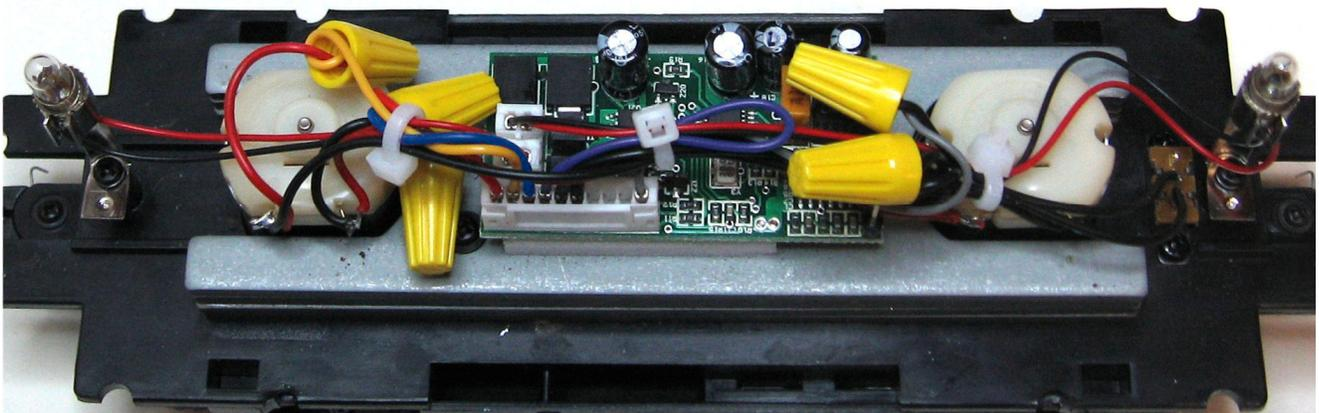

Figure 7 – Chassis complete
2. Locate the provided cable ties and, while referring to Figure 7, use them to secure the chassis wiring. Wires should be positioned so they will not be pinched between the chassis and shell or other parts. Avoid placing wires directly in front of windows for a better appearance. When complete, cut the cable ties to remove any excess length.